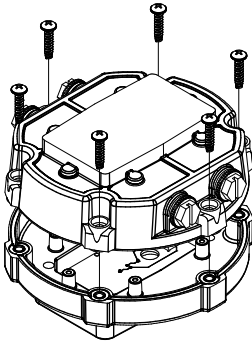

Figure 17
- Remove (6) screws retaining the cover plate to the base and lift the cover plate free of the base (see Figure 17).